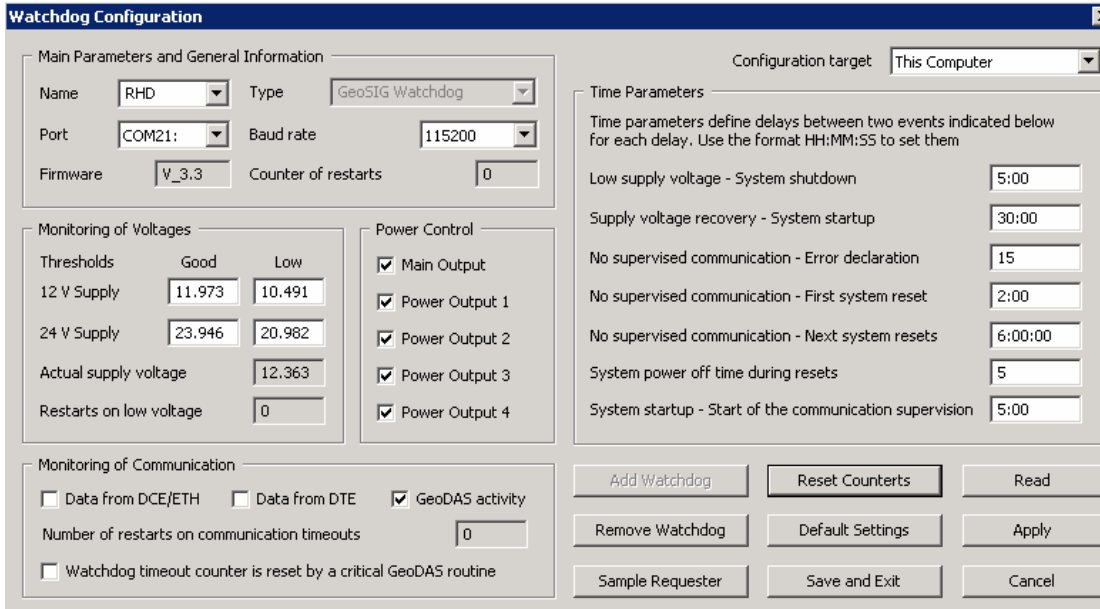

Figure 22. Default settings for the internal watchdog
- Check if the Watchdog RHD has the settings as shown in Figure 22. Default settings for the internal watchdog. If the watchdog RHD is not present, add it.